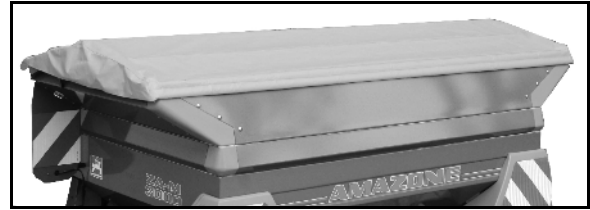

Fig. 43
5. Steerable brake rollers (Fig. 43/1), front
- o Install and secure with clip pin (Fig. 43/2),
6. Rigid rollers (Fig. 43/3), rear
- o Install and secure with safety splint (Fig. 43/4) in lowest bore,
When installing the rigid rollers ensure that the pin (Fig. 43/5) goes through the bore of the frame, thus holding the rollers in longitudinal direction.